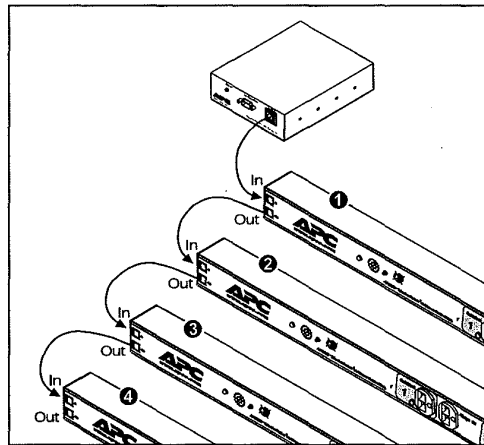

Figure 5: Connect units using the appropriately labeled Rj-11 port.
- 2 For each succeeding unit to be connected, refer to Figure 5 on page 10 and follow the steps below: